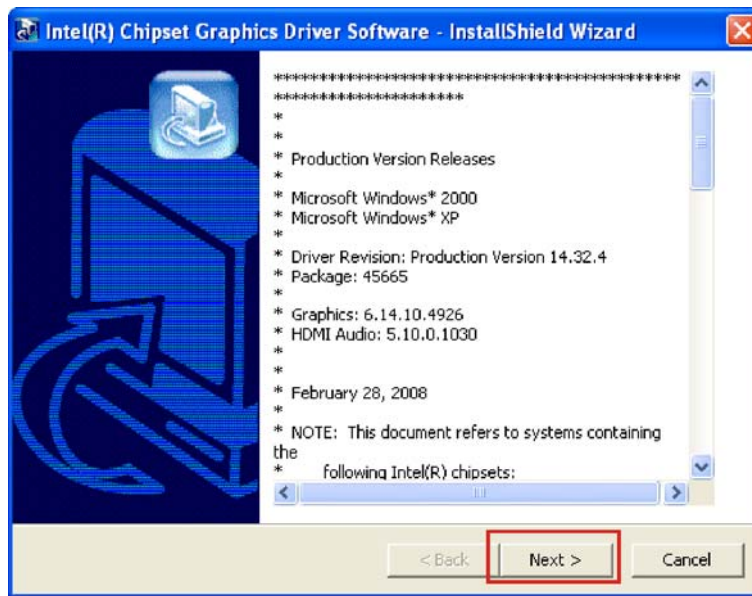

Figure 7-9: VGA Driver Read Me File
Step 3: The VGA Read Me file in **Figure 7-9** appears.